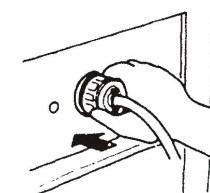

Figure 32
4.2 Connect the devices (Figure 32)